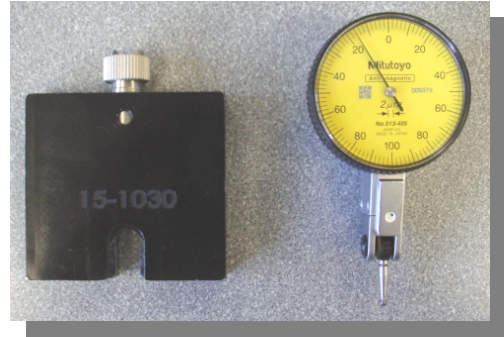

Figure 14
- 2) Remove the dial indicator and its adapter plate (Figure 14) from the MultiPrep™ accessory case.